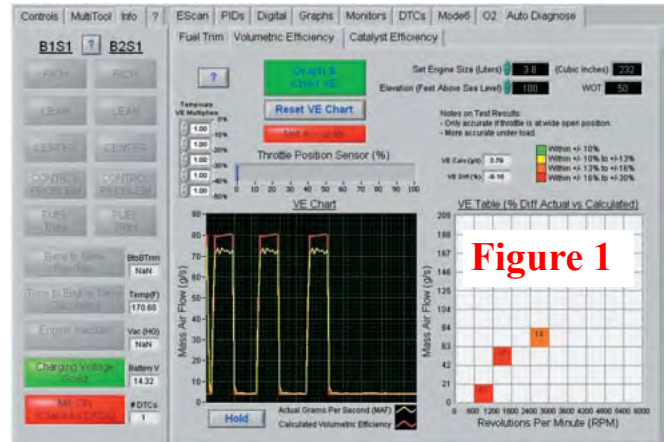

Figure 1
To perform an MAF sensor test I like to use the EScan scan tool that makes testing the sensor easy. The scan tool has a Sharp Shooter tab that incorporates an easy test feature to test Volumetric Efficiency (VE). In order to perform this test properly all you have to do is input the correct engine size, temperature and elevation. Once the correct information has been typed in, drive the vehicle while depressing the throttle pedal to Wide Open Throttle (WOT) a few times. (Note: Perform this test from a rolling start in first gear, followed by a WOT acceleration through the second gear upshift. Do this in a safe section of road near your shop and always obey local traffic laws in the process.) The tool will display the results based on what the VE table calculations test results currently are compared to the actual results. This is a very accurate and time-saving test that allows me to confirm if I have an induction problem. Problems could be related to a clogged air filter, intake manifold, valve problem including carbon build up and even a clogged exhaust. The tool will graph two lines; the red line is based off the engine size, temperature and evaluation while the yellow line displays the test results. The example **(Figure 1)** displays a lower than acceptable reading along with turbulence on the yellow graph, indicating a clogged exhaust. If the test results were normal the yellow line would be over the red *(Con't on page 5)*